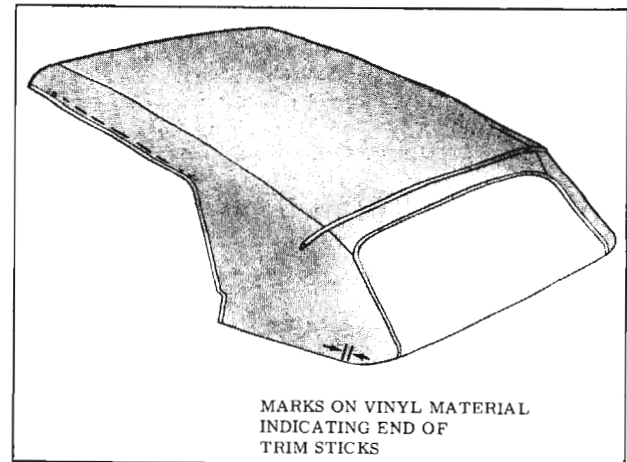

Fig. 16-115 Marking Top Material
12. Using a pencil, mark both ends of rear and rear quarter trim sticks on vinyl surface of top material. (Fig. 16-115) Reference marks for trim sticks should be transferred to new top material when step 30 of installation procedure is performed.